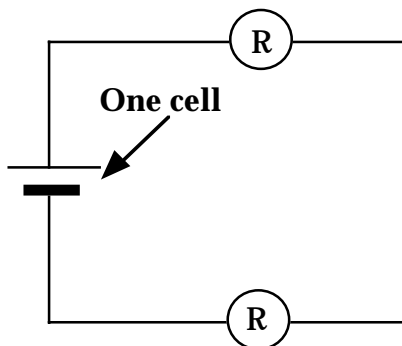
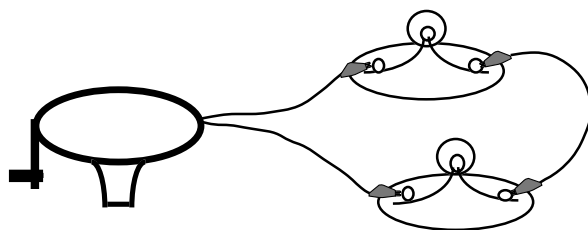

Figure 2.7b
Figure 2.7c
Set up the circuit in Figure 2.7b, with only ONE D-cell in the battery holder. Carefully observe the brightness of the bulbs.
4. Observing the brightness of the bulbs in Figure 2.7b, crank the Genecon until the bulbs have the same brightness as with one D-cell (Figure 2.7c). During ten seconds, approximately how many turns of the crank do you have to make to do this?